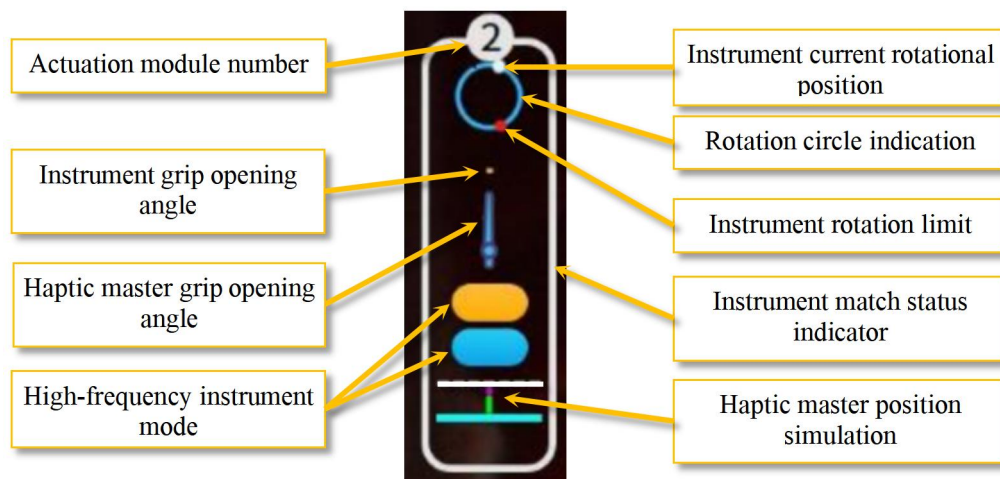

Figure 10.22 Instrument indicator box
5. Instrument indicator box: There are two instrument indicator boxes on the upper side of the surgical field of view. The left and right ones correspond to the instruments assigned to the left and right haptic masters, respectively. As shown in Figure 10.22, the instrument indicator box includes: